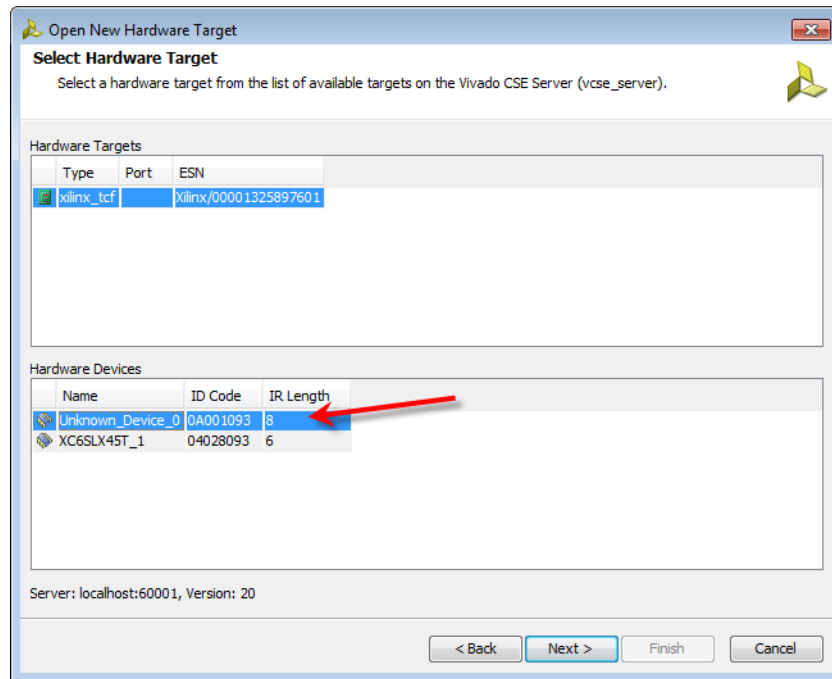

Figure 2-8: Instruction Register Length
**Note:** If one or more of the devices is unknown to Vivado, you can provide the instruction register (IR) length directly in the **Hardware Devices** table of the Open New Hardware Target wizard (Figure 2-8).